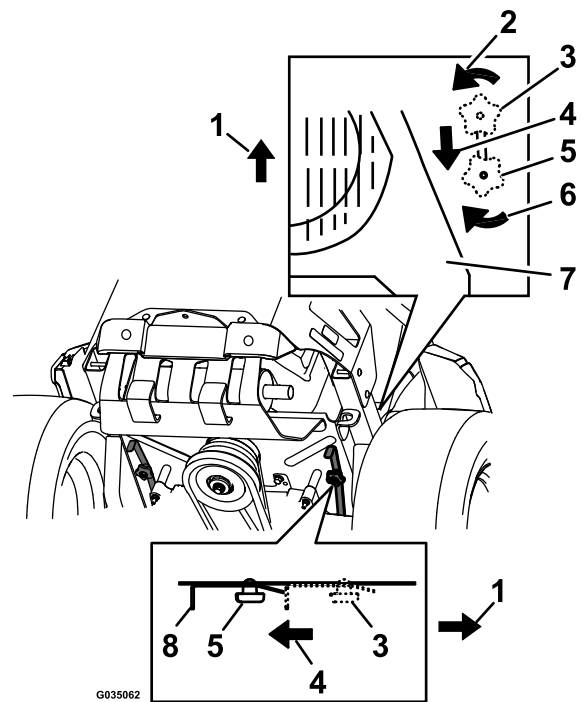

Figure 33
4. To push the machine, move both bypass knobs rearward and lock them into place (Figure 33).
6. To run the machine, move the bypass knobs to the FORWARD position and lock them into place (Figure 33).